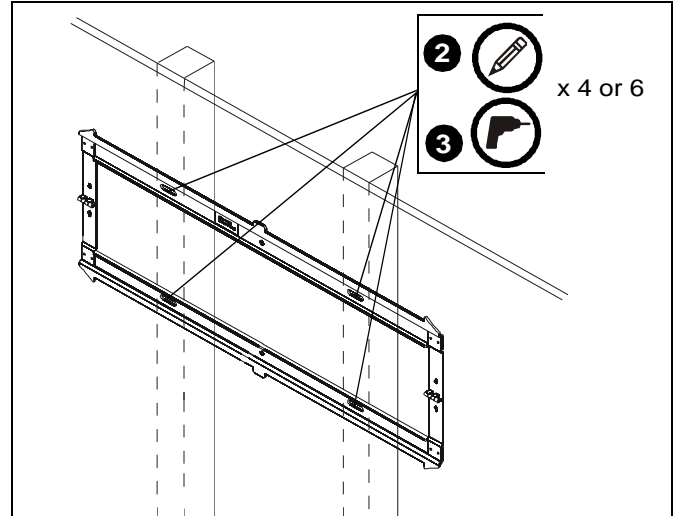

Figure 2
2. Level wall plate (A) and mark locations of pilot holes. (See Figure 2)
**NOTE:** The RMF2 must be installed on two 16" studs. The RLF2 can be installed on 16" studs (inner holes) or 24" studs (outer holes). For the RXF2, it can be mounted over two or three 16" studs or two 24" studs. If mounting to three 16" studs, it must be mounted to all three studs using the outer holes and center holes. (See Figures 2 and 3)
3. Drill 7/32" (5.5mm) diameter pilot holes into wood studs at marked locations. (See Figure 2)